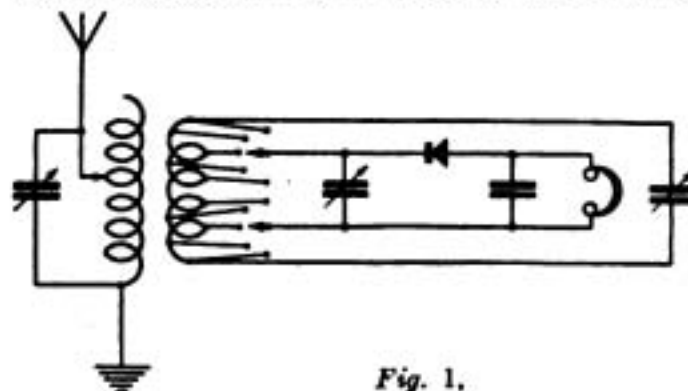

Fig. 1.
S.K. (Normanton) asks (1) What is the capacity of a single wire aerial of 14 SWG copper wire, 85 ft. horizontal portion, 10 ft. down lead, height 24 ft. (2) Is it advantageous to use telephones of 4,000 ohms or more with a single valve set, or what is the best value. (3) If the set described in June 26th issue for H.E.J.S. (Ealing) could be given enough inductance with the above aerial to tune to 15,000 ms., or what would be the longest wavelength for fair efficiency. (4) In the above, what should be the capacity of the billi condenser, and what is a billi condenser.
(1) 0.00018 mfd. (2) 4,000 ohm telephones will give quite good results. The best result would be obtained by using telephones of 8,000 ohms resistance or by employing low resistance telephones in conjunction with a telephone transformer. (3) We do not advise you to attempt to tune to more than about 8,500 ms. with this set. This would require an inductance of 100,000 microhenries in the aerial circuit. (4) 0.0003 mfd. The term "Billi Condenser" (billi=billi-farad) is usually applied to a small tubular condenser used for fine tuning purposes.
W.J. (Colwyn Bay) (1) describes a type of "loud speaking" telephone, having a resistance of 180 ohms, and asks whether it would give satisfactory results with the telephone transformer described in the issue of last March. (2) States that with a zincite-bornite crystal and 4,000 ohm telephones he can only hear Poldhu, Cleethorpes, Eiffel Tower and Nauen (Time signals), apart from 600 metre stations, and asks if he should be able to receive any other stations between 2,800 and 3,500 ms. (3) Gives diagram of circuit for criticism (Fig. 1), in which three variable condensers are of 0.00036 capacity and the telephones of 4,000 ohms resistance with blocking condenser. The position of the secondary is stated to be fixed, but